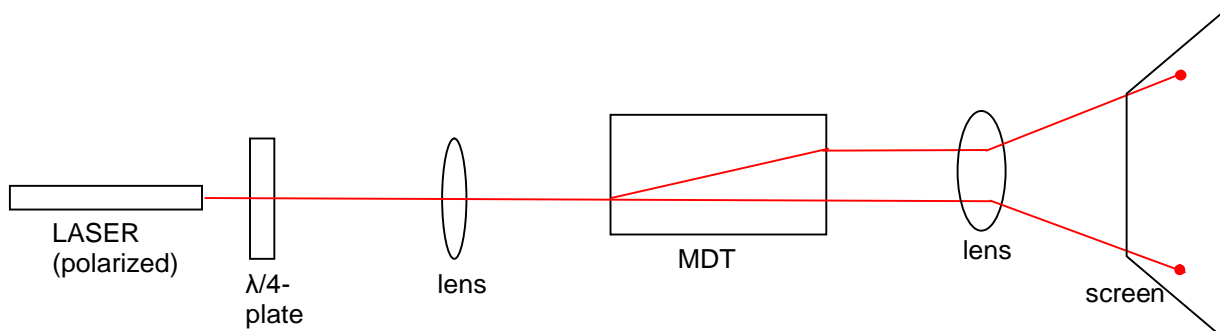

Fig. 1: Example of pre-adjustment for beam shaping in case of visible laser radiation.
To get a small input beam diameter you can use a pinhole or also a lens (fig. 1 and 2). Using a lens you must ensure that the Rayleigh length of the focussed beam is at minimum (recommended) two times bigger than the crystal length. Also a combination of pinhole and lens may lead to good results. A second lens with small focal length behind the MDT crystal can be used to magnify and transfer the resulting beam profile onto a screen (fig. 1 and 2).
1. All components are installed like in fig. 1. Notice that this setup is only one example. For example the $\lambda/4$ -plate must be removed if your laser source is depolarised or the lens can be replaced by a pinhole or the screen and lens can be replaced by a CCD detector system (see also chapter “Pre-Adjustment” from above).
3. The crystal is rotated in the horizontal plane as long as the mentioned light spots lie onto a vertical axis (fig. 1).